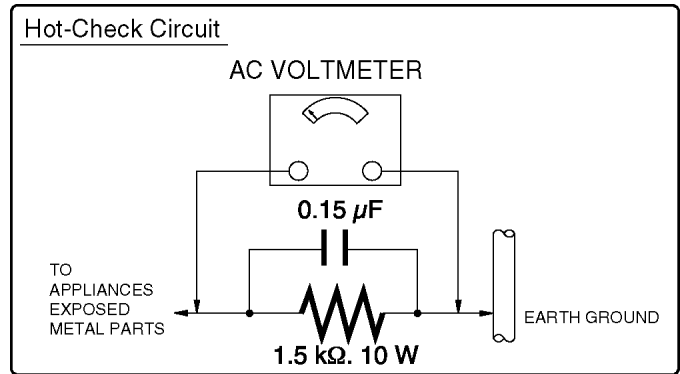

Figure. 1
(See Figure 1.)
2. Connect "A" to exposed metallic part on the set. And connect "B" to a good earth ground, as shown in Figure 1.